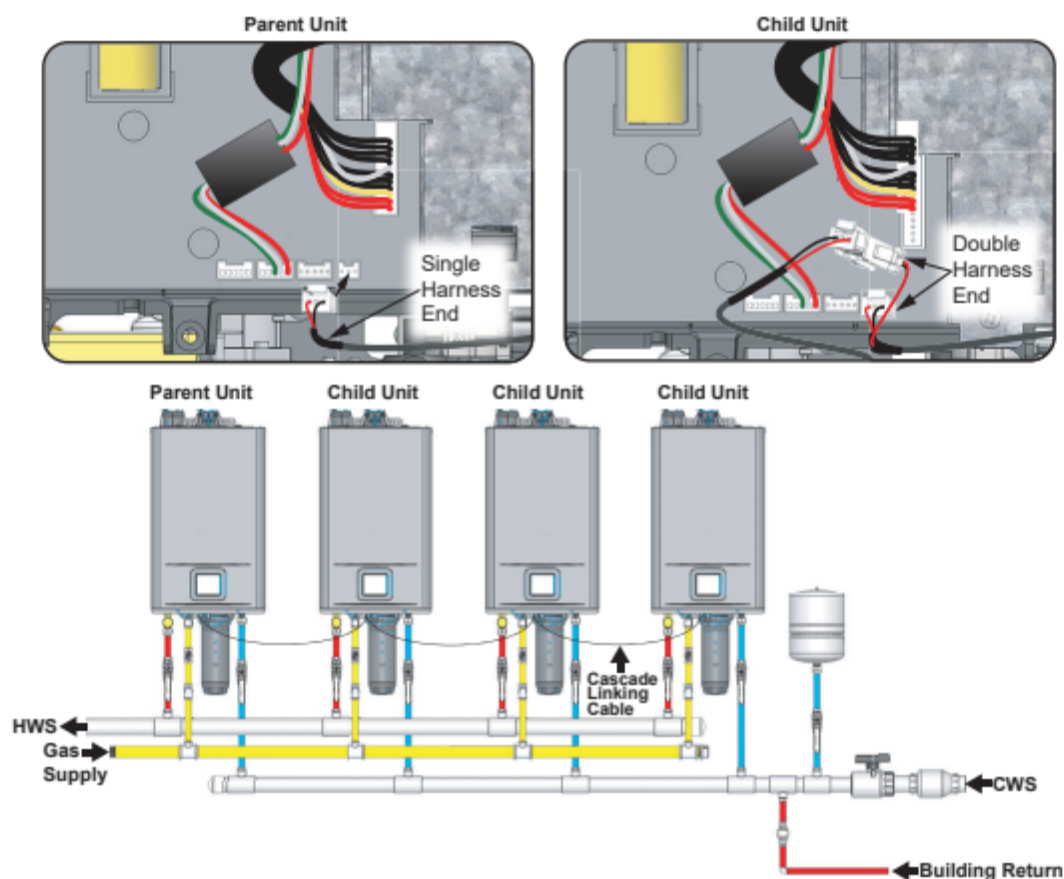

Figure 39 - Multi Unit Cascade Configuration
- 1 The Cascade system should be configured with the Parent water heater as either the first or last in the series of water heaters connected to the cold water supply. The Child units will follow sequentially. See Figure 39.
- 7 Use Figure 39 as a reference to locate the connection point for the Parent Cascade Unit. Use the single harness end of the Cascade Linking Cable to make the initial connection.
- 9 If more than one Child water heater is used then route the single harness end of the second Cascade Linking Cable through rubber grommet on the bottom of the first Child water heater and connect it to the open harness on the first Cascade Linking Cable as shown in Figure 39.